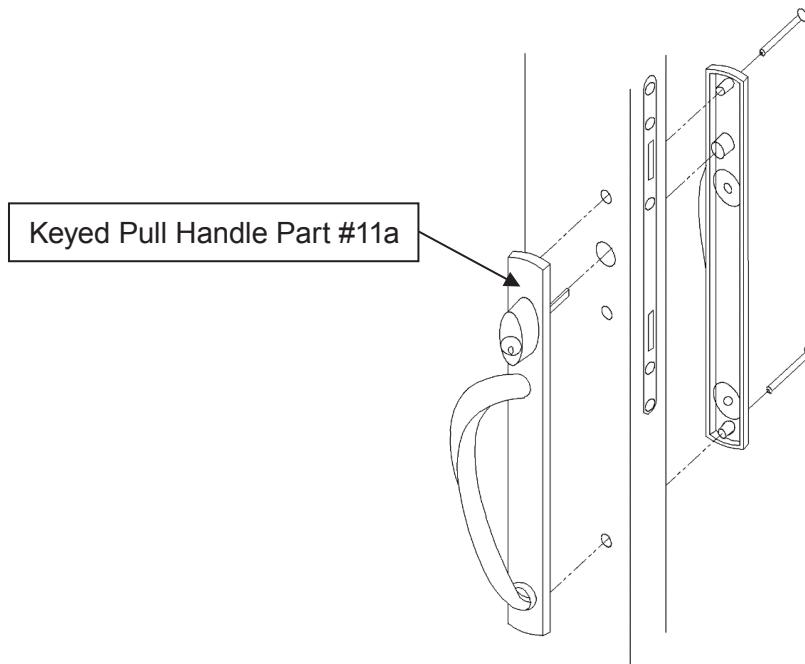

FIGURE 18
21. Install the pull handle (Part #11a, 11b, or 11c) by inserting the exterior and interior handle into the pre-drilled holes. Secure handle by installing the screws included with the handle kit on the interior side as shown in Figure 18.